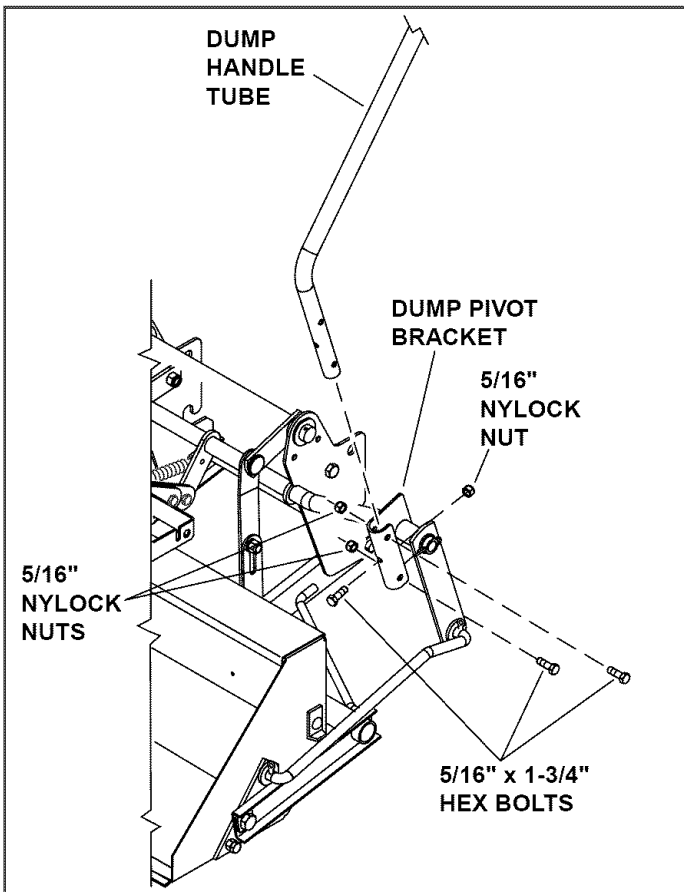

FIGURE 13
- Install the dump handle tube to the dump pivot bracket assembly using three 5/16" x 1-3/4" hex bolts and nylock nuts. See figure 13.